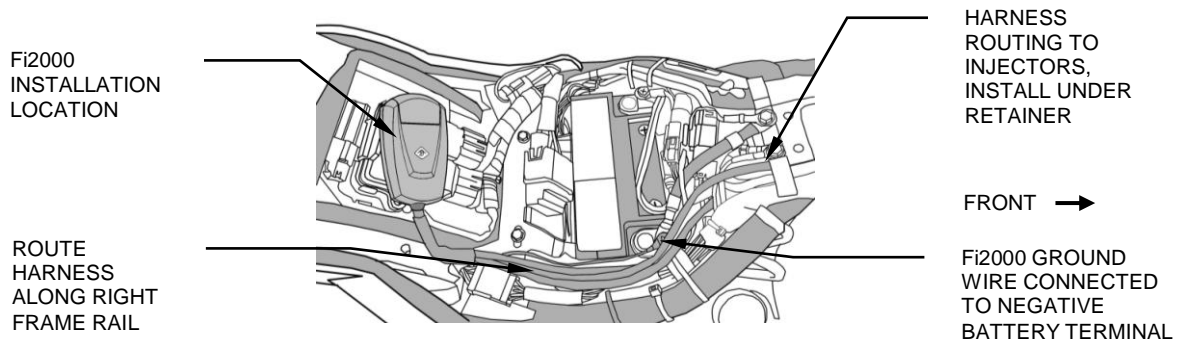

FIGURE 2
3. Lay the Fi2000 module in the area underneath the seat, do not attach it to the motorcycle, route the injector wire harness forward up the right side of the frame backbone, see Figure 2. The harness can be secured using the existing zinc colored harness retainer. Place the injector harness in the plastic loom tray along the right side of the frame backbone. Route the forward set of connectors to the front injector.
9. Reinstall the battery, attach the positive lead, and then the negative along with the black ground wire from the Fi2000 tuner, see Figure 2.
11. Remove the backing from the Velcro and attach the Fi2000 as shown in Figure 2.